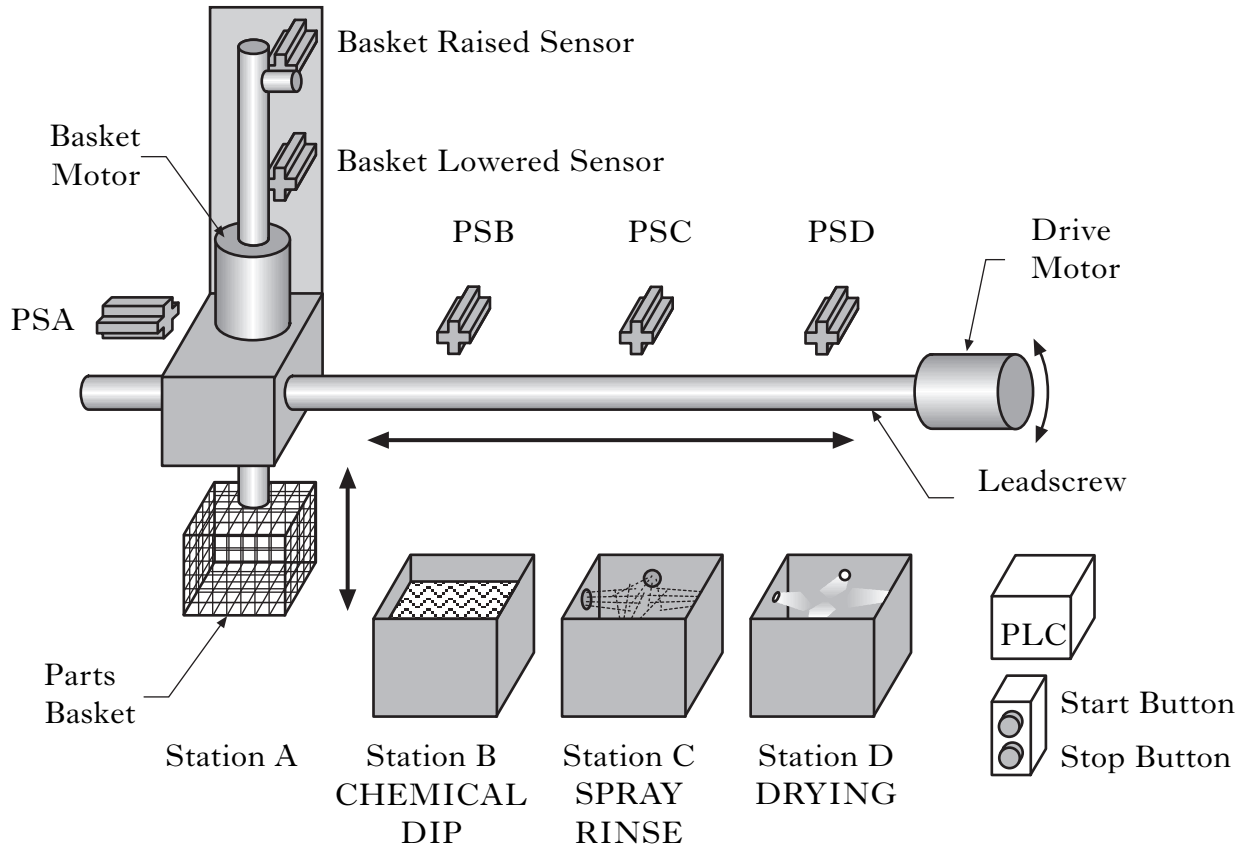

Figure Q11
11. An automated chemical cleaning system uses a handler as shown in Figure Q11 and is controlled by a PLC.